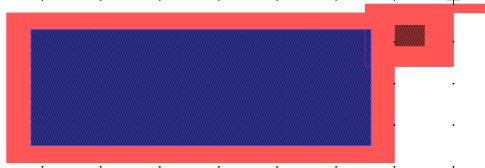

Figure 152: Pasted BC Tags.
- Drag the pasted BC tags, so that they cover the "Anchor1" box completely, as shown in (Figure 152).